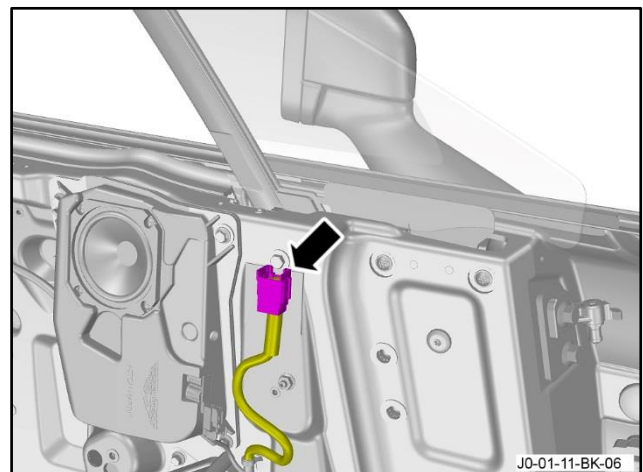

Figure 31
16. Install the clip that attaches the electrical connector for the exterior mirror to the door (refer to Figure 31).